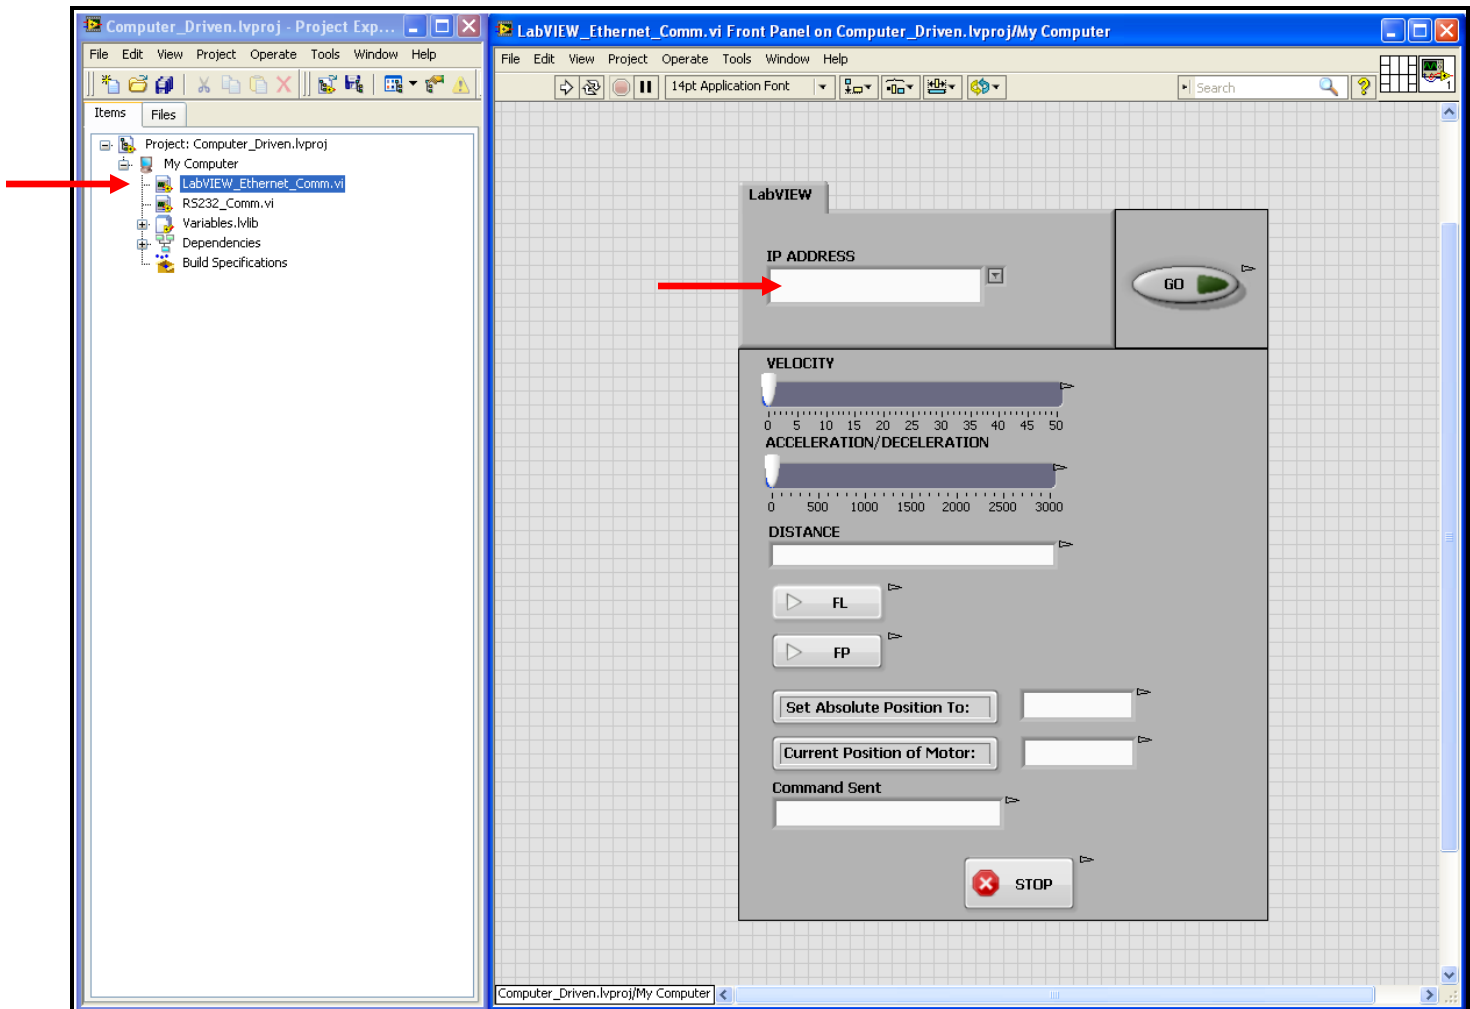

Figure 5: Sample LabVIEW user interface for Ethernet communication
- 3) Open up the 'LabVIEW_Ethernet_Comm' VI and select the IP address of your drive from the IP ADDRESS drop-down indicated by the red arrow in Fig. 5.